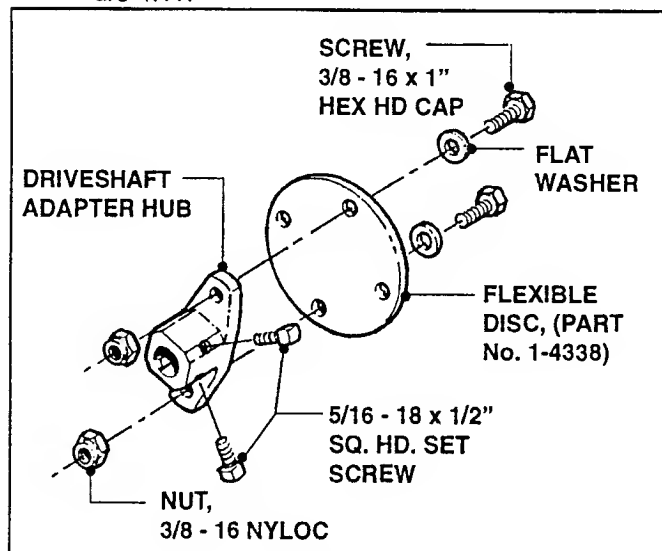

FIGURE 4.11
- B. Remove Adapter Hub from the old Flexible Disc and loosely attach it to the NEW Disc as shown in Figure 4.11.